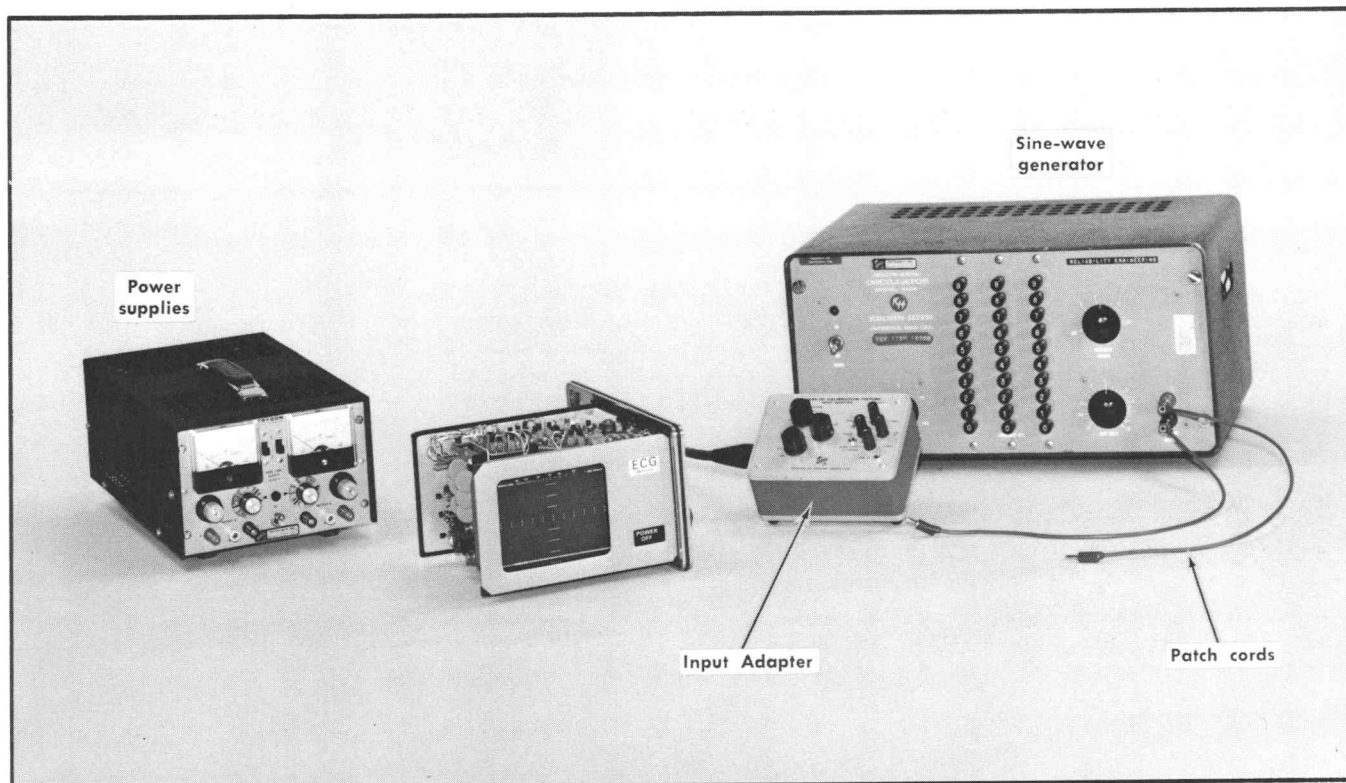

Fig. 6-16. Equipment required for steps 21 and 22.
- a. Test equipment setup is shown in Fig. 6-16.